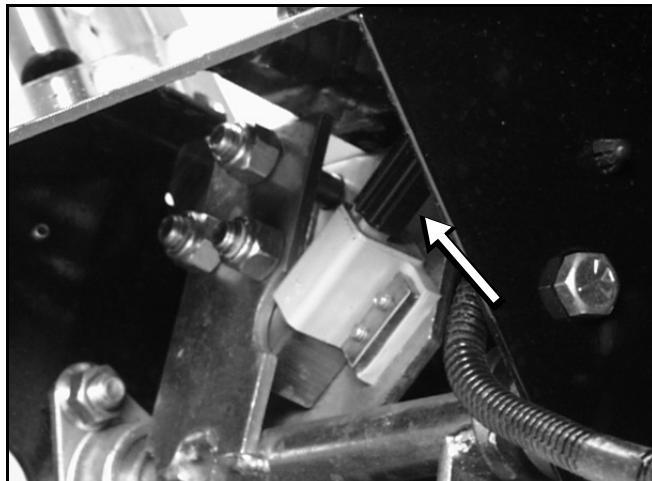

Figure 72
2. Remove the electrical plug from the neutral switch (Figure 72).